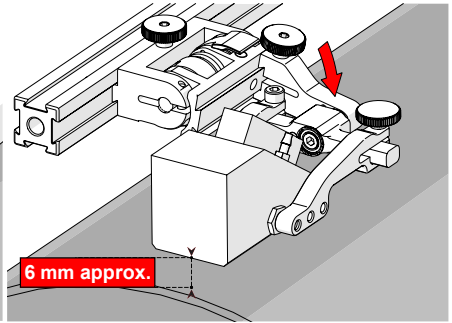

Fig. 52 - Lower to scanning surface
2. Push the probe holder yoke down toward the inspection surface until the wedge is approximately 6 mm ( $\frac{1}{4}$  in) above the inspection surface (*Fig. 52*).